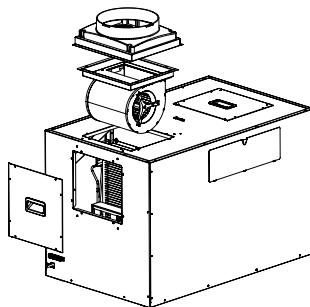

Figure 12
• **Figure 12:**
1. Install the fan onto the top cover plate according to the installation direction shown in Figure 12, and secure it with screws (make sure to reconnect the fan power and control cables properly).